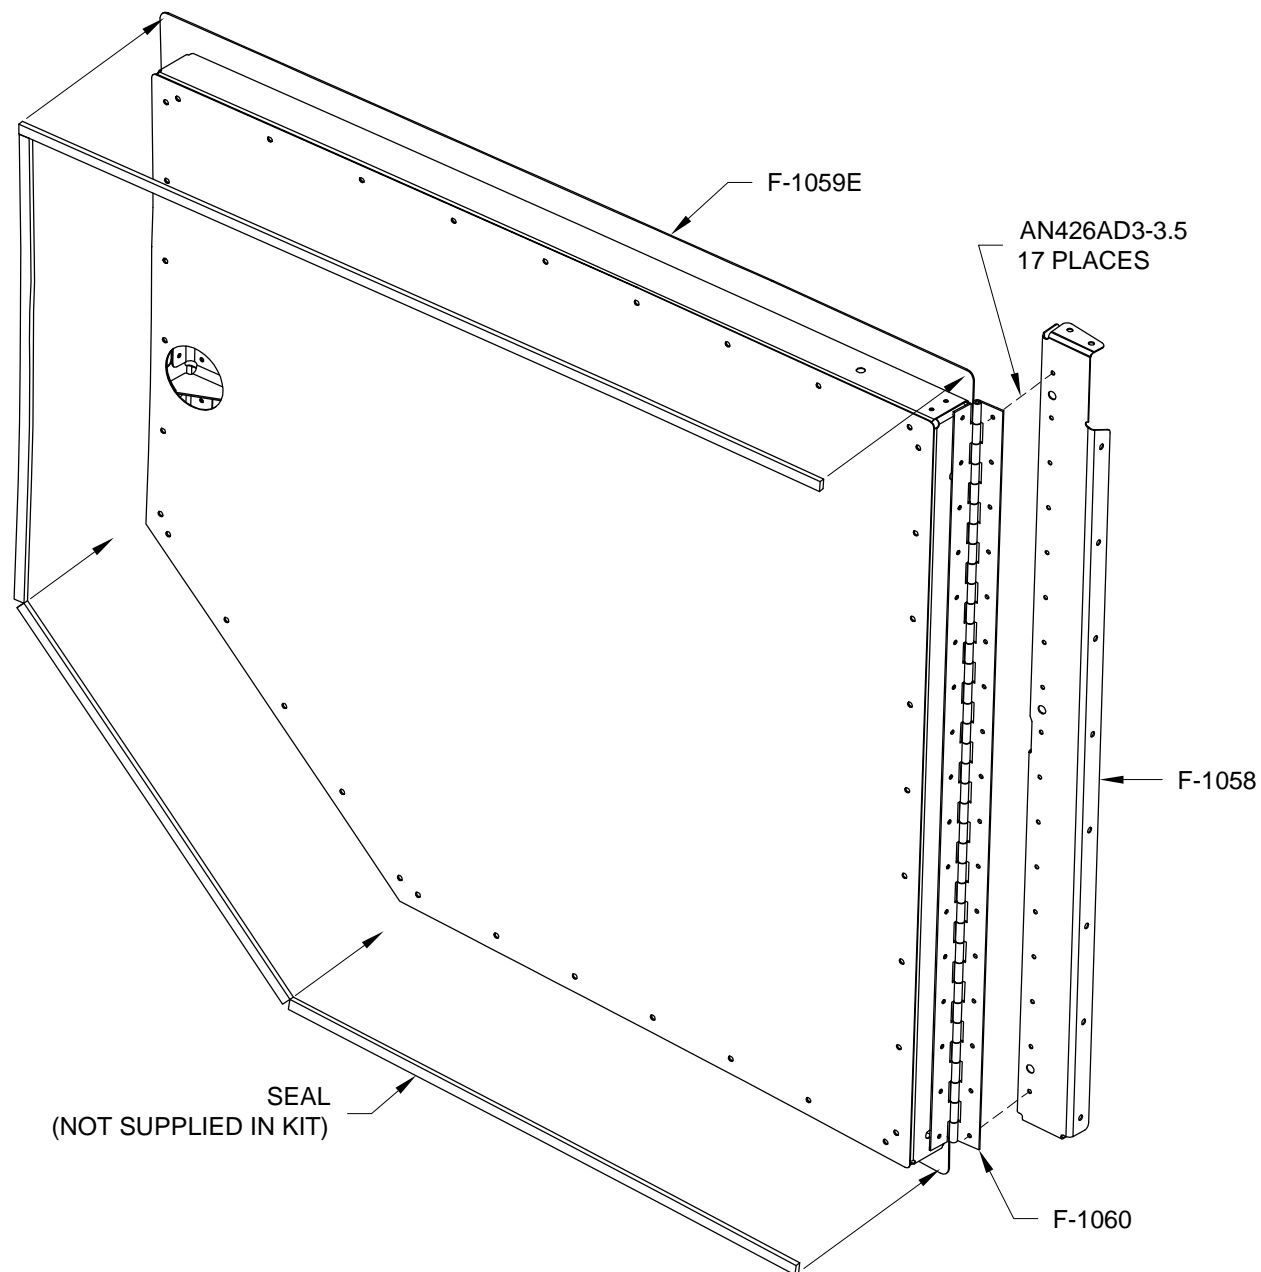

FIGURE 1: ATTACHING THE HINGE FRAME AND SEAL
Step 3: Rivet the F-1060 Hinge to the F-1058 Hinge Frame using the rivets called-out in Figure 1.
Step 4: Attach 1/8" thick x 1/4" wide seal material (door and window weather strip tape can be used) to the F-1059E Skin about an 1/8" from the edges of the skin as shown in Figure 1.